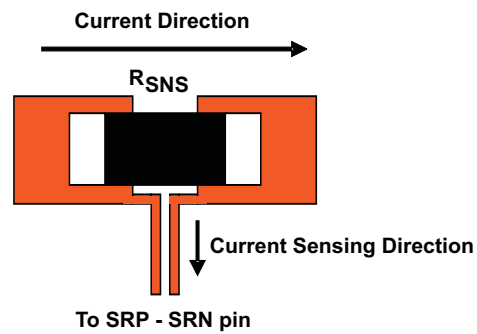

Figure 22. Sensing Resistor PCB Layout
4. The charging-current-sensing resistor must be placed right next to the inductor output. Route the sense leads connected across the sensing resistor back to the IC in same layer, close to each other (minimize loop area), and do not route the sense leads through a high-current path (see Figure 22 for Kelvin connection for best current accuracy). Place the decoupling capacitor on these traces next to the IC.